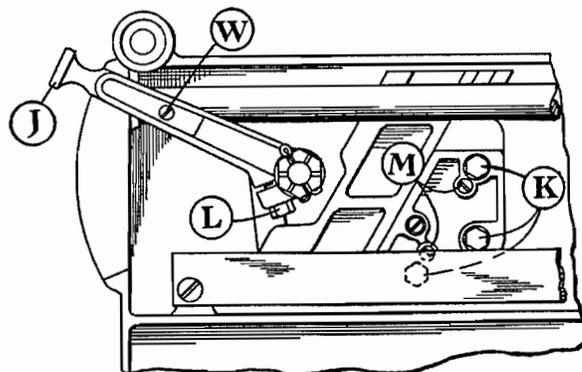

Fig. 3
(A) To Adjust Zero Point When the slice adjusting lever J is at the extreme right or zero position the gage plate should lie in the same plane as the face of the knife. If it does not, adjust as follows: First, turn the machine up on its side to expose the underneath parts, then loosen the screw L shown in Fig. 3. Move the gage plate up to the level of the knife face, and the lever to zero, then tighten screw L.
(B) To take Up Looseness in Gage Plate Turn the machine on its side, loosen the three screws K slightly and then turn each of the two screws M a fraction of a turn to take up the looseness. Be sure to tighten the screws K again. (See Fig. 3).
(E) To Tighten Slice Adjustment, turn screw W, Fig. 3.